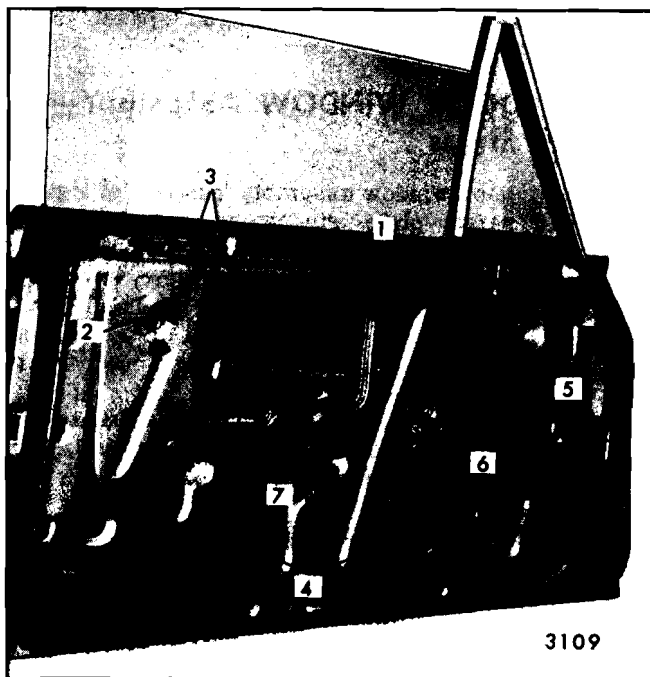
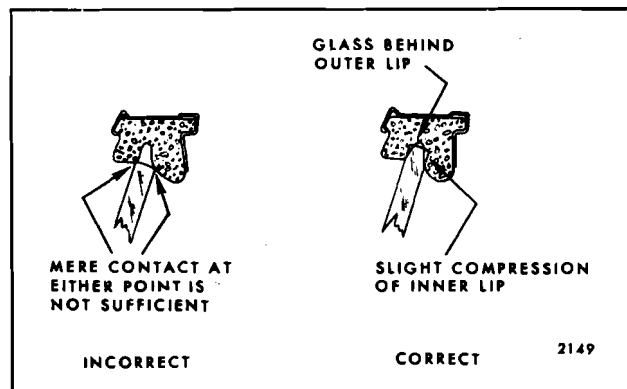

Fig. 6-80—Front Door Window Removal and Adjustments - "A-39" Styles
Fig. 6-81—Window to Side Roof Rail Weatherstrip Alignment
sash channel and rear up stop from rear guide ("1" and "2", Figure 6-80).
- Loosen rear guide to door inner panel attaching bolts ("3", Figure 6-80).
- With window in a three quarter down position, remove screws securing lower sash channel cam to lower sash channel ("4", Figure 6-80).
- A rotated window condition (glass cocked in opening) may be caused by any one or a combination of the following (Reference: Figure 6-80).
- To adjust upper rear corner of window in or out in relation to side roof rail weatherstrip, loosen rear guide upper attaching bolts ("3", Figure 6-80) and position guide further inboard or outboard.
If this adjustment proves inadequate, obtain additional adjustment at the ventilator front frame adjusting stud ("5", Figure 6-80).
- To adjust window up-travel, operate window to "full-up" position and loosen front and rear upper stops ("1 and 2", Figure 6-80). Operate window to desired up position (Figure 6-81) and tighten stop bolts.
- Adjustment has been provided to relieve a binding door glass due to a misaligned ventilator division channel ("6", Figure 6-80).